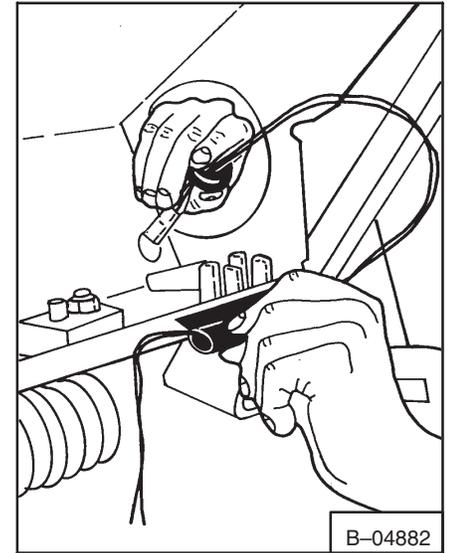

Fig. 5-50 Moving Sender Wire
4. Put the wire in the tank area (Fig. 5-50).